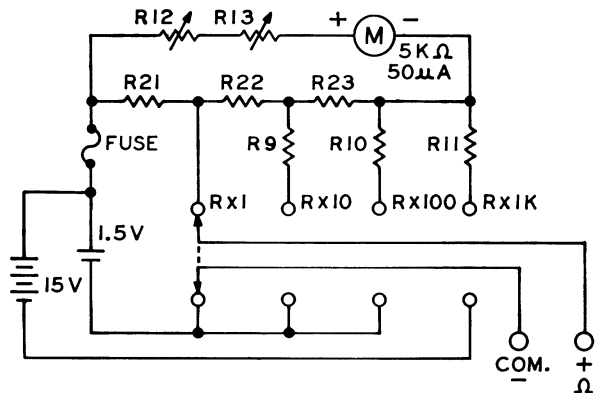

Figure 5-4. Simplified Circuit—DC Ohms
5.5.1 A simplified circuit for the 165 ohmmeter ranges is given in Figure 5-4. Note for the R x 1 ohms measurements, the equivalent meter resistance is approximately 200 ohms. A 1.5 volt battery supplies the power for measurements on the R x 1, R x 10 and R x 100 ranges.